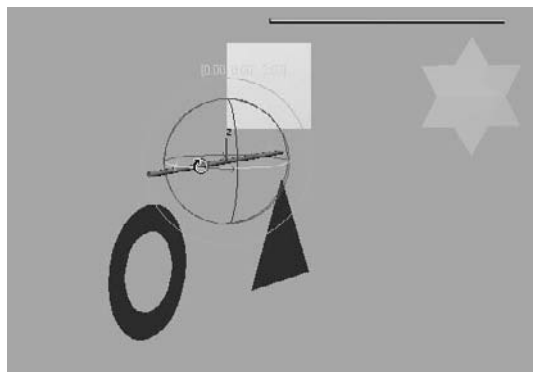

Figure 2.47
2. Move the Time slider to frame 50. Click the Rotate tool (or press the hot key E for the Rotate tool), and select and rotate the bottom bar (which will also rotate the triangle and donut shapes beneath it). You can rotate the bar in either direction on the Z-axis, as shown in Figure 2.47. Give it a few full rotations all the way around. Don't be shy.